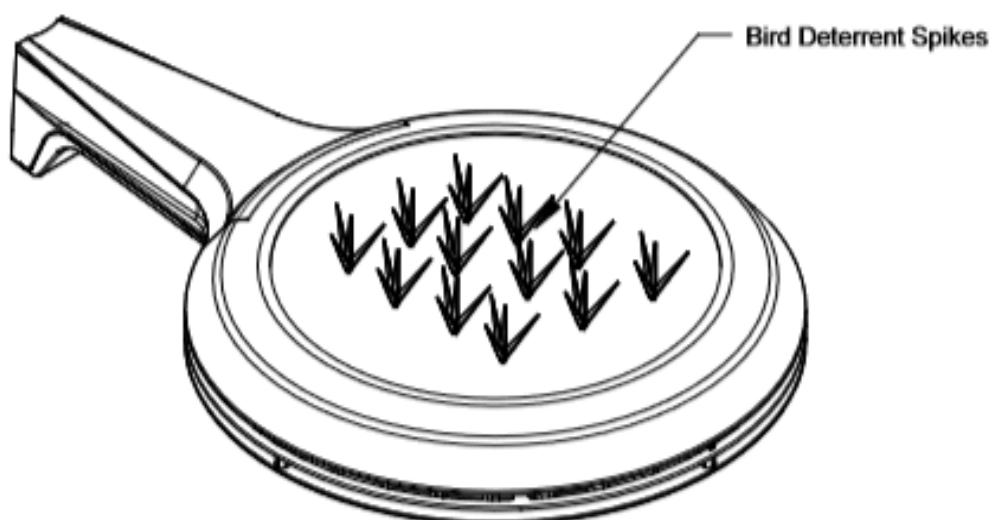

Fig. 3
9. Install bird deterrent if applicable (See Fig. 3).